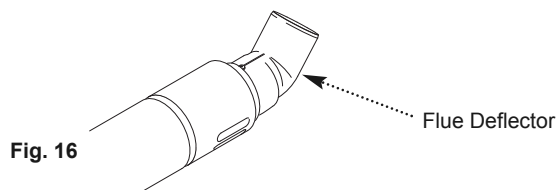

Fig. 16
1. Push the flue deflector over the terminal end. It may point upwards as shown, or up to 45° either way from vertical. Secure the deflector to the terminal with screws provided (Fig. 16).